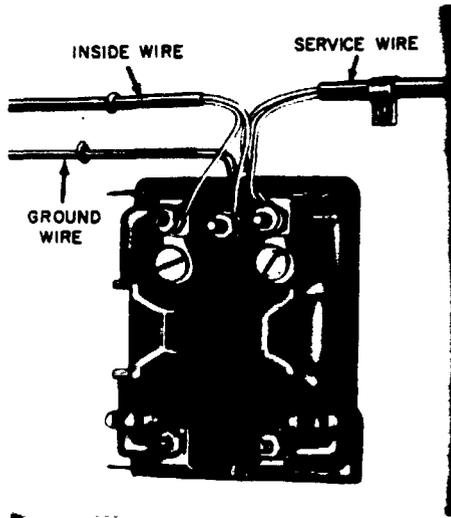
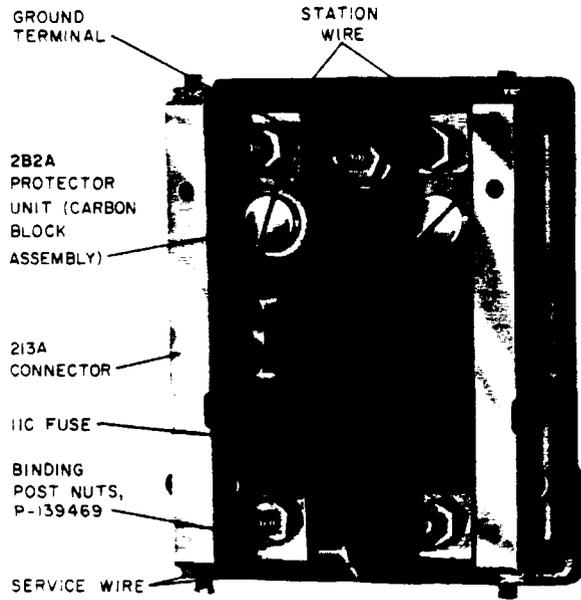

Figure 84—Alternate Method of Converting 106C Protector
Figure 85—Converted 106C Protector
13.03 The 106C protector may be converted to fuseless operation by connecting the aerial or buried drop input line wires directly to the station side of the protector, provided the line wires are of sufficient length. The fuses may then be removed (Figure 84). Where the input line wires are too short to reach the station side of the protector, install two 213A connectors as described in paragraph 13.02(11). The 106C protector is equipped with 2B2A protector units and adapters are not required (Figure 85).